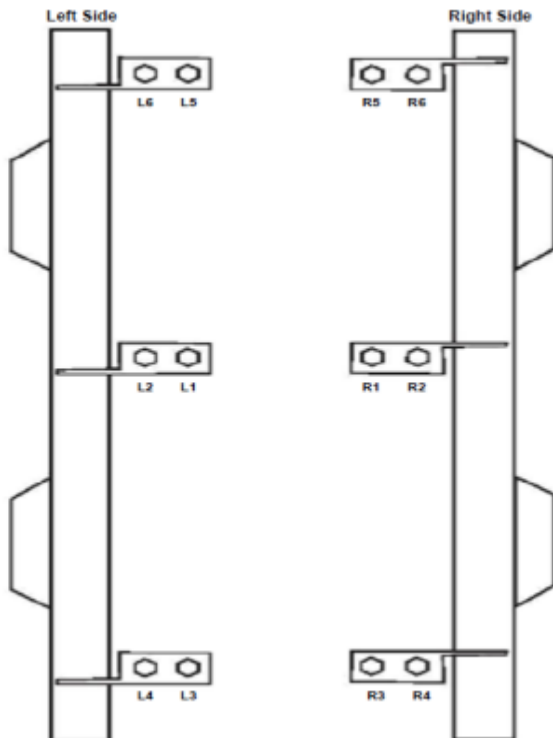

FIG 2
- a) Note: The bracket should be to the front with the flange facing forward, reference FIG 2